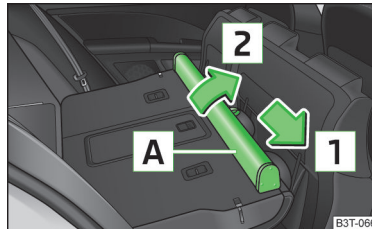

Fig. 120
- Push the housing **A** in the direction of the arrow **1** and remove it from the mounts on the right seat backrests in the direction of the arrow **2** » Fig. 120.
- Insert the recesses on the housing **A** » Fig. 120 into the mounts on the rear seat backrests.